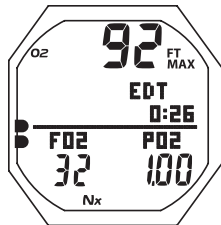

Fig. 77 - NO DECO ALT 1
**No Deco Alt 1**, information includes (Fig. 77) -